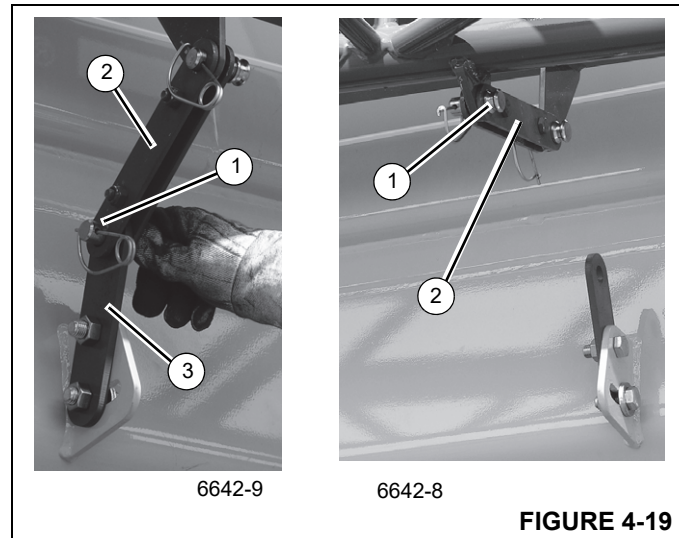

FIGURE 4-19
31. Remove pin (1, Figure 4-19) from boom base attachment bar (3). Move locking bar (2, Figure 4-19; 10, Figure 4-20) to boom extension base section and install pin (1). Secure with retaining clip.